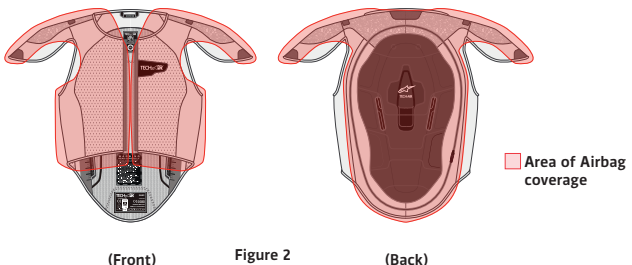

Figure 2
The Tech-Air™ Race airbag system provides impact protection for those areas of airbag coverage shown in Figure 2.
**WARNING! The Tech-Air™ Race airbag system provides only limited protection against forces experienced at the areas of airbag coverage depicted in Figure 2. No guarantee is given that the Tech-Air™ Race airbag system will prevent injuries (including severe or fatal injuries) inside and/or outside the covered/protected areas.**